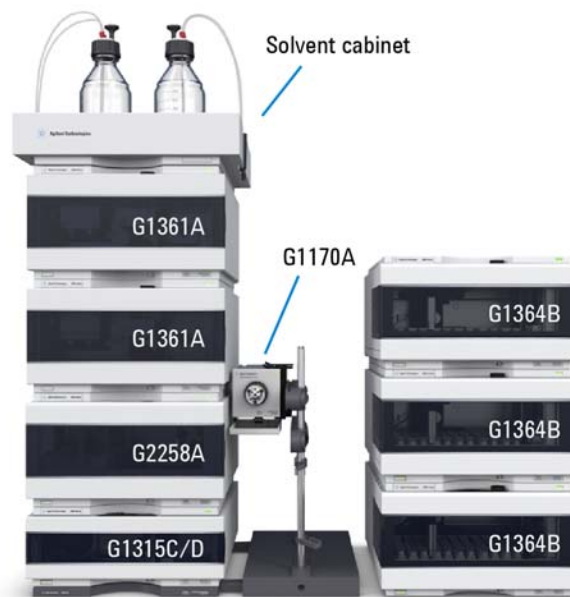

Figure 6 Stack configuration for Agilent 1260 Infinity Purification Solution with UV detections
- G1364B Fraction Collector (FC) for sample collection, in the following configurations:
- Up to three FCs as cluster with G1170A Valve Drive/G4731A Valve Kit (option shown in Figure 6 on page 21)